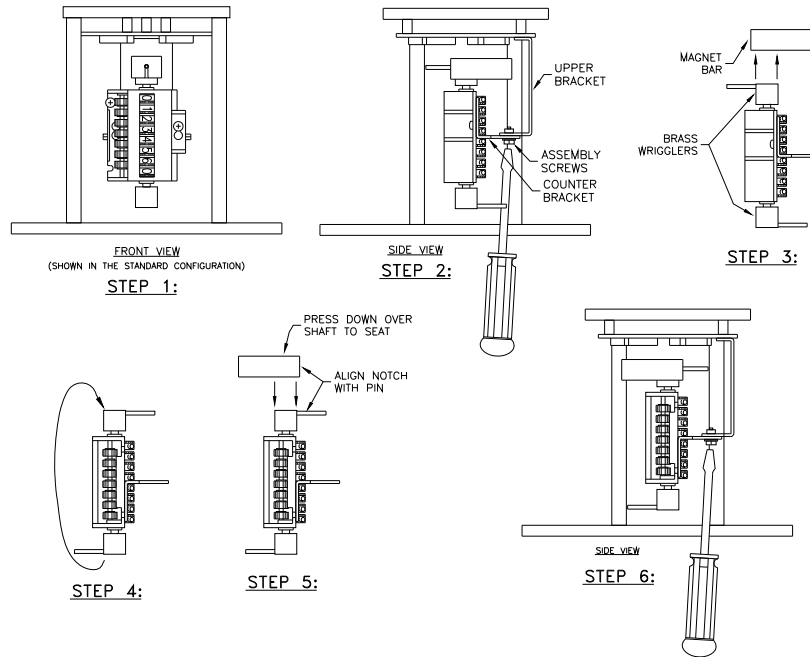

Figure 7 – Reversing the Index Rotation
1. Check the meter drive rotation by looking down on the meter-driving dog. Note whether it rotates clockwise (CW) or counterclockwise (CCW).
2. The standard index is setup for clockwise (CW) meter drives. The rotation of the unit can be changed for counterclockwise (CCW) meter drives. See Fig. 7 - Reversing the Index Rotation.
The default configuration of the counter is as shown in Step 1 of Fig 7; with the most significant digit at the top, and the least at the bottom. This would be used on meters having clockwise (CW) rotation. For meters having counterclockwise rotation, the counter assembly must be reversed as follows: